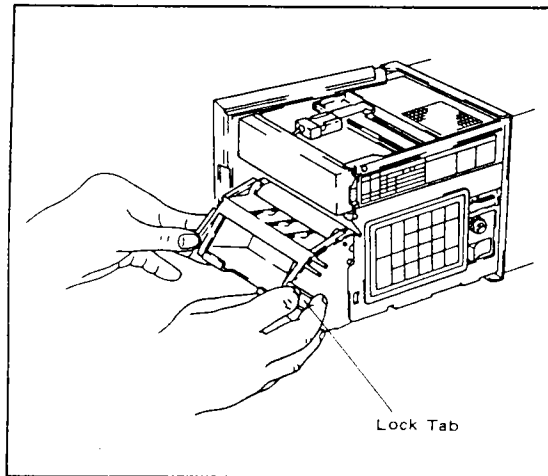

Figure 5-16.
- (3) While gently pressing the chart paper compartment lock tab, located at the lower right front, in the direction of the arrow, swing and lift the compartment away from the unit. (See Figure 5-16.)
- (4) Remove the battery cartridge by pressing the lock tab down and pulling the cartridge out of the internal assembly by the handle. The battery